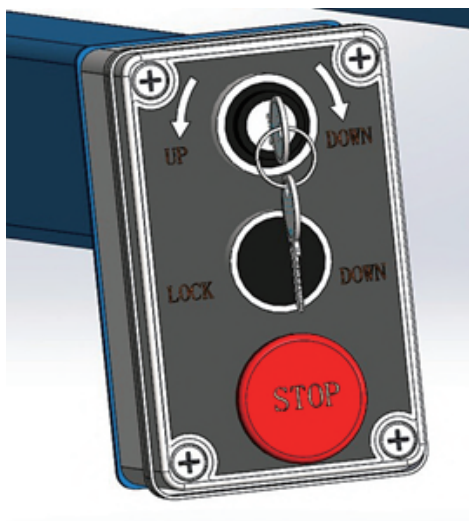

Fig. 1
3. To Raise Lift: Turn the key switch clockwise. Release switch at desired height, Fig. 1.